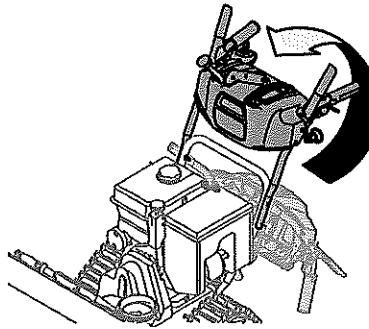

Figure 2-4
5. Pivot handle upward and align the lower handle. See Figure 2-4. Remove and discard any rubber bands, if present. They are for packaging purposes only.